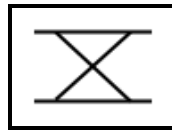

FIGURE 5.6.1
5.6 Identify the resistance weld symbols in FIGURES 5.6.1 and 5.6.2 below.